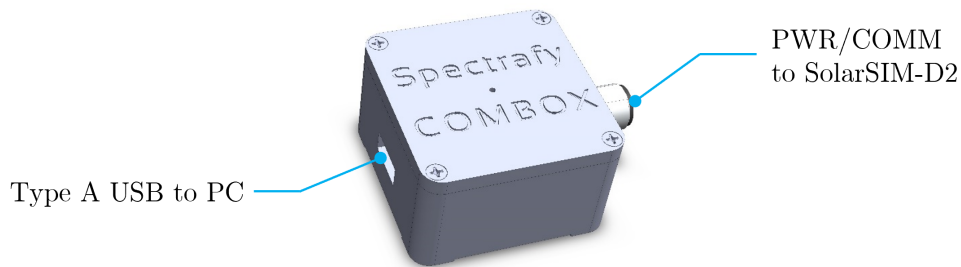

Figure 5: The COMBOX interfaces the SolarSIM-D2 to a PC.
Option 1 uses the SolarSIM-D2 Communication Box (COMBOX) - a seamless link between a PC and the SolarSIM-D2, as shown in Figure 5. A standard 6 ft USB cable is connected from the COMBOX to a PC. On the other side, a 10 m RS-485 communication cable is connected from the COMBOX to the SolarSIM-D2. This option is ideal for test sites and locations where one has the access to a personal computer (PC) or when quick, in-field spectral measurements are necessary with a laptop.
The COMBOX, depicted in Figure 5, is the most convenient way to acquire data from the SolarSIM-D2. Please follow these steps to install the COMBOX: